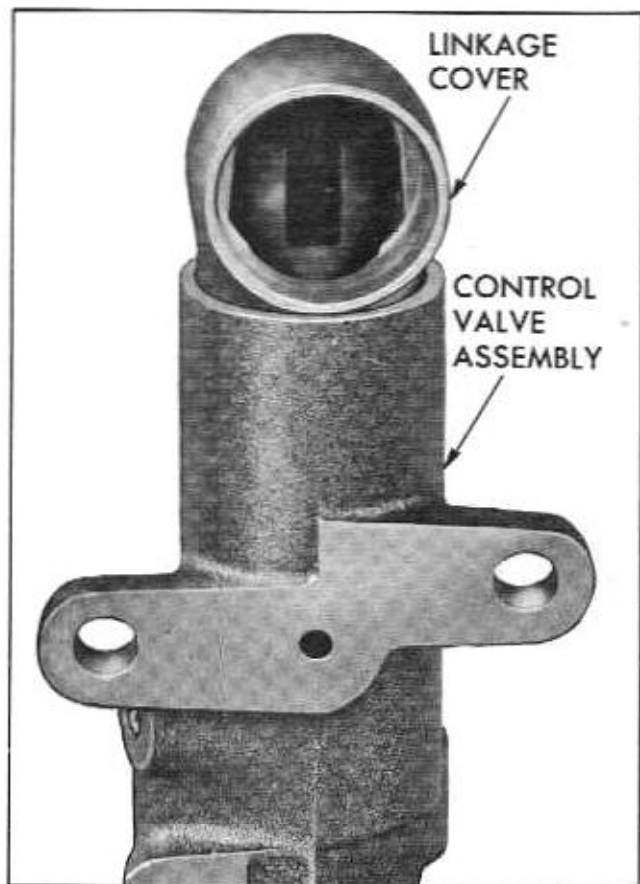

Fig. 9-62 Control Valve and Linkage Cover
1. Lubricate linkage cover "O" ring seal and install on linkage cover and assemble to control valve. Position valve link so that slot is perpendicular with bottom of valve (Fig. 9-62).